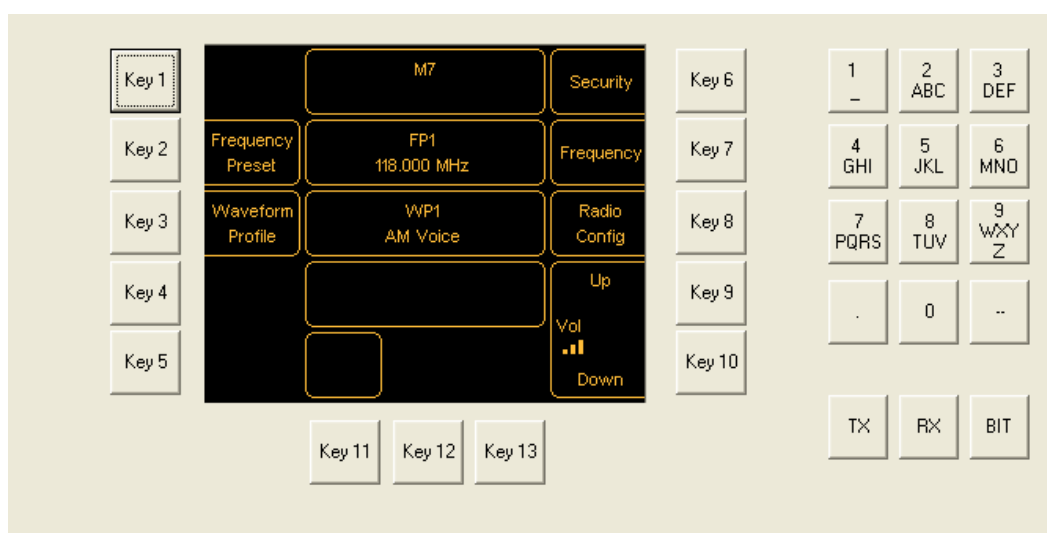

Fig 3-33 Home Screen
- (1) From the Home screen (Fig 3-33) press *Key 3* to display the list of waveform profiles (Fig 3-34).